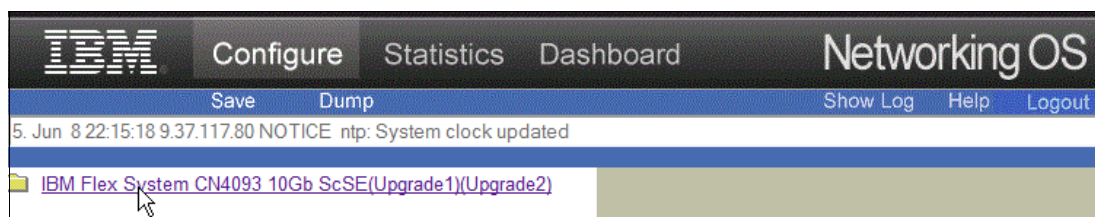

Figure 8-5 Switch Dashboard panel
5. At this point you are redirected to a switch dashboard panel. Click the title as in Figure 8-5.